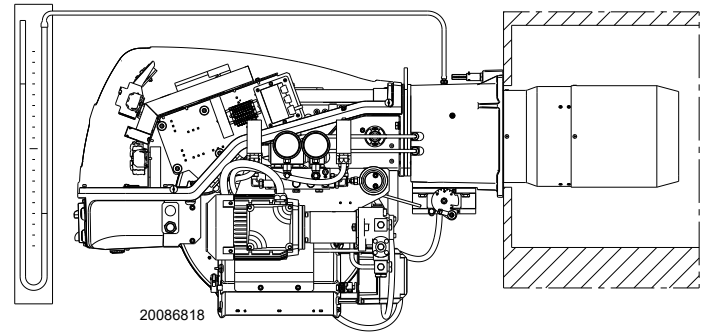

Fig. 42
- Fit a U-type manometer (Fig. 42) to the gas pressure test point on the sleeve. The manometer readings are used to calculate MAX. burner power using the diagrams on page 28.